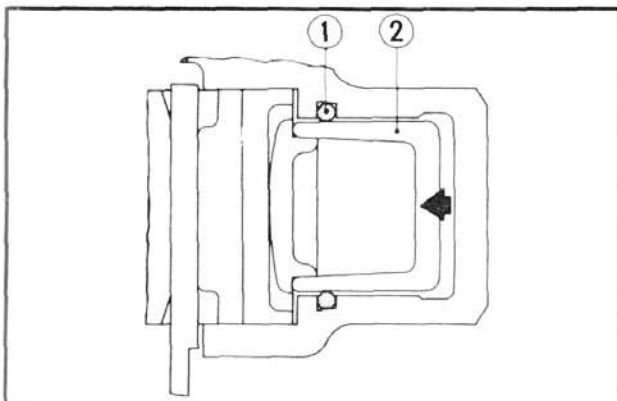

Fig. 14-2 ① Piston seal
- The clearance of 0.002~0.004 in (0.05~0.1 mm) between the disc and the pad to be consistent with the wear of the pad. When hydraulic pressure is applied against the back of the piston, the piston seal first deforms and as the piston moves further, the piston slides over the piston seal until the pad contacts the disc (Fig. 14-2). When the hydraulic pressure is released, the deformed piston seal will return to its normal shape, and consequently, pulls the piston away from the disc by the amount of the piston seal deformation.